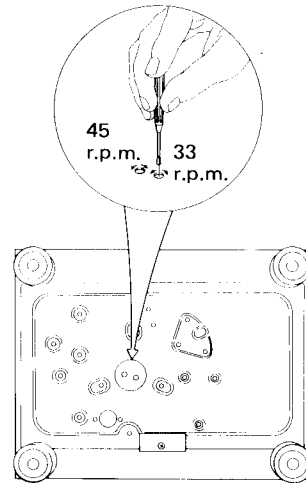

Fig. 11
2. Adjust the speed with the semi-fixed resistor on the motor control board (Fig. 11).